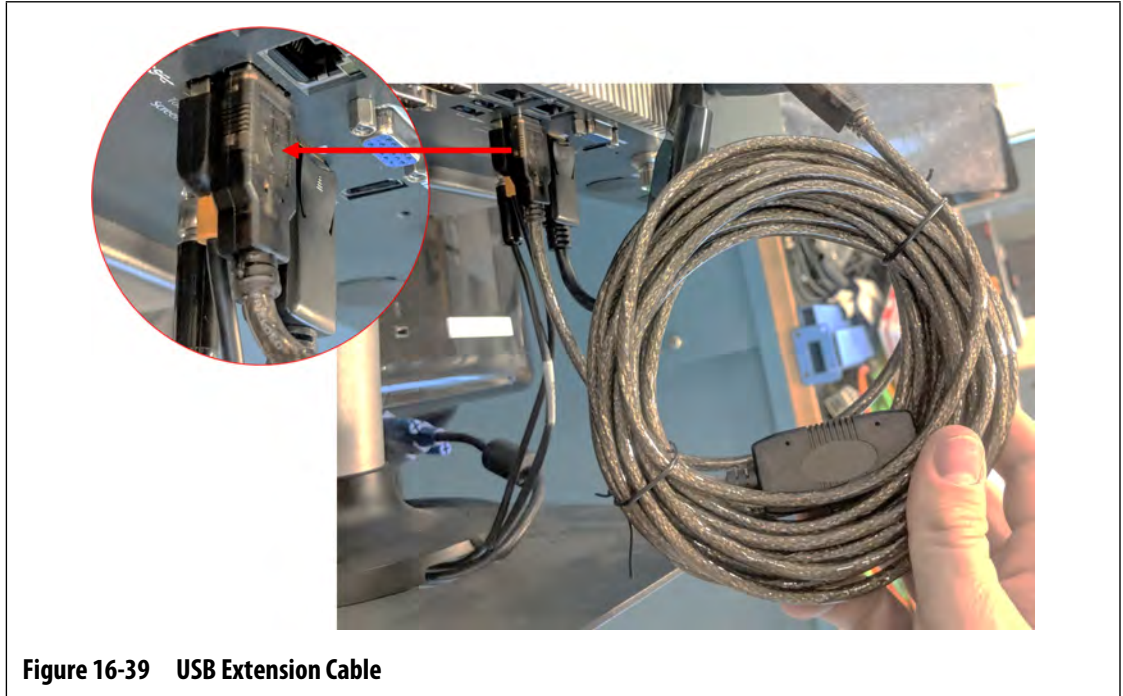

Figure 16-39 USB Extension Cable
4. Connect the USB Extension cable (USB Type A connector end) to one of the available USB ports on the bottom of the MCU enclosure. Refer to Figure 16-39.